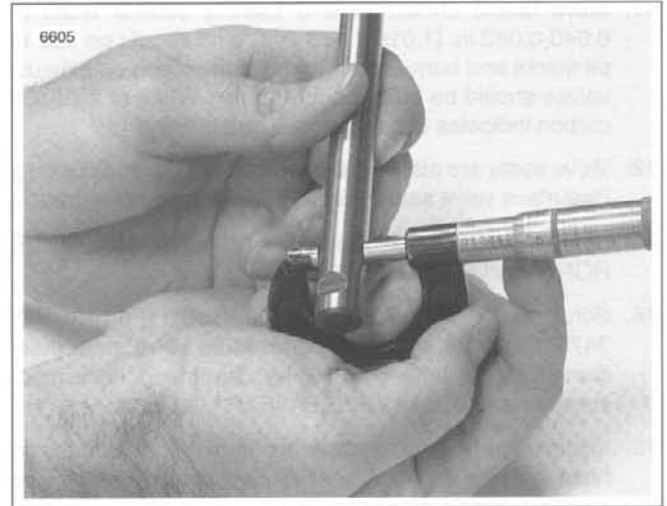

Figure 3-13. Measuring Rocker Arm Shaft Diameter (Rocker Arm Bushing Position)
- b. See Figure 3-13. Measure where rocker arm bushings ride.